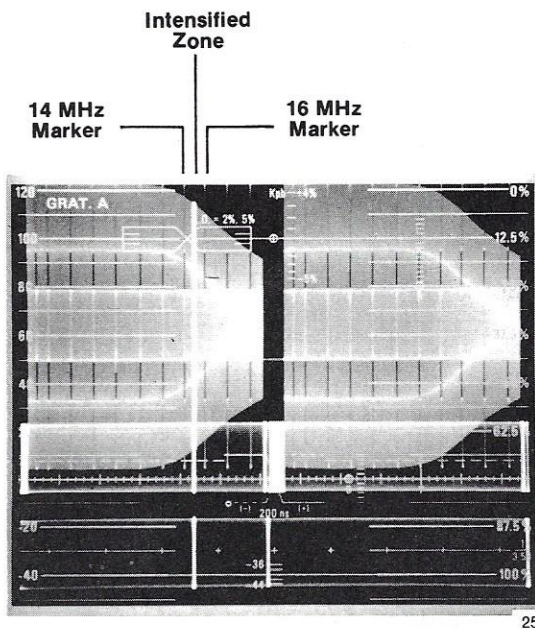

Fig. 4-16. Intensified zone centered between the 14 MHz and 15 MHz markers. Waveform monitor Input switch set to A-B, DC Coupled; Display switch set to 2 Field.
c. Set the waveform monitor Variable Line Selector control to intensify the portion of the display centered between the 14 MHz and 16 MHz markers as shown in Fig. 4-16.